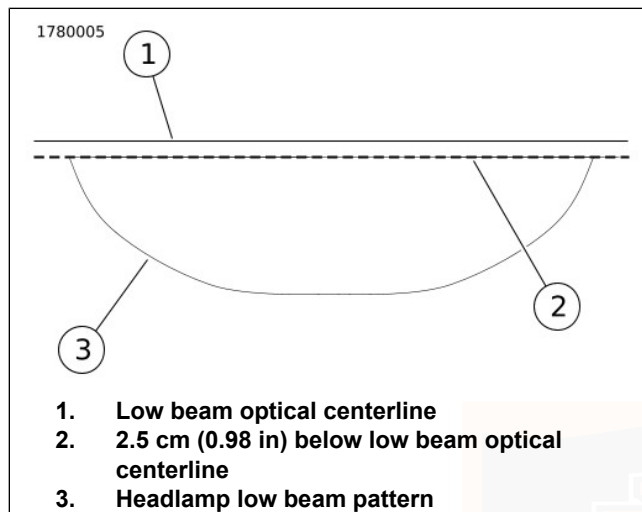
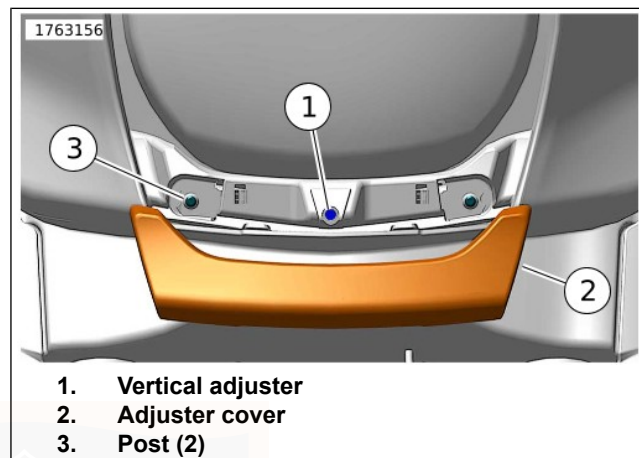

Figure 115. Alignment of Headlamp Low Beam
Figure 116. Headlamp Adjustment
1. See Figure 115. Grasp adjuster cover (2) and pull forward to release it from posts (3).
2. Insert flat blade screwdriver in vertical adjuster screw (1).
3. See Figure 116. Turn vertical adjuster to adjust light beam (4) up or down until top of light beam meets horizontal line (3).